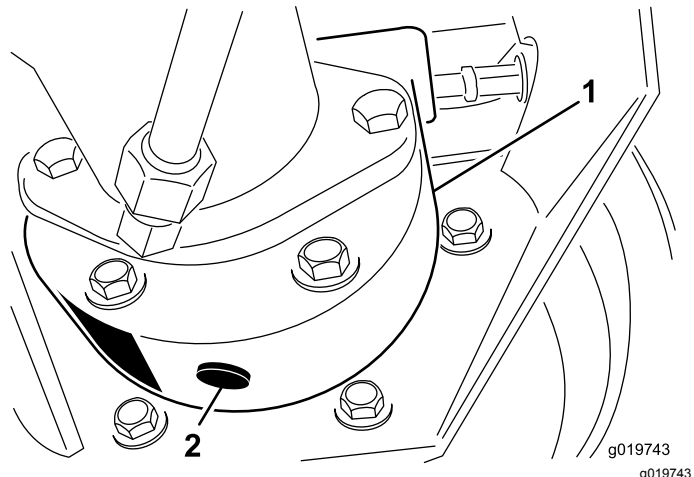

Figure 44
3. Place a drain pan under the brake housing, remove the drain plug and allow the oil to drain (Figure 44).